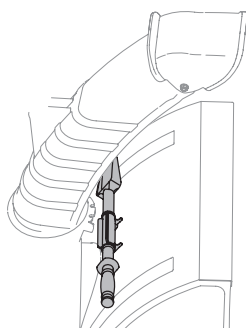

Figure 2-51
The chute clean-out tool is fastened to the top of the auger housing with a mounting clip. See Figure 2-51.
2. Turn the drift cutters around and position them as shown in Figure 2-51 to the outside of the auger housing.